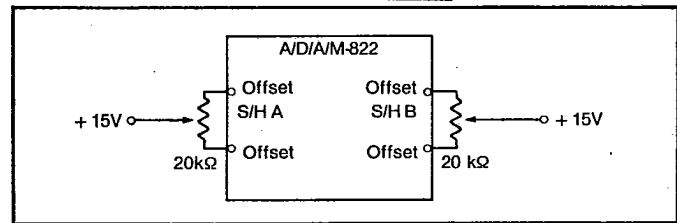

Figure 3. Offset Trimming Circuit.
- Offset and gain errors are externally adjustable — see Figures 3 and 4.
A separate, external 20 k Ω multi-turn potentiometer for each S/H amplifier is recommended, per Figure 3. The +15V source used to power the A/D/A/M-822 may be used for the offset circuit as well.